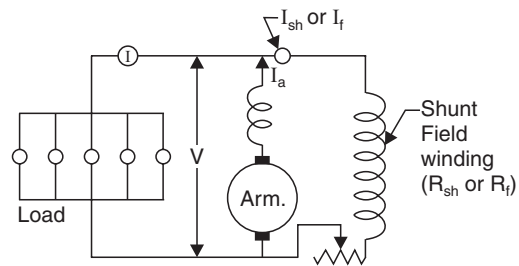
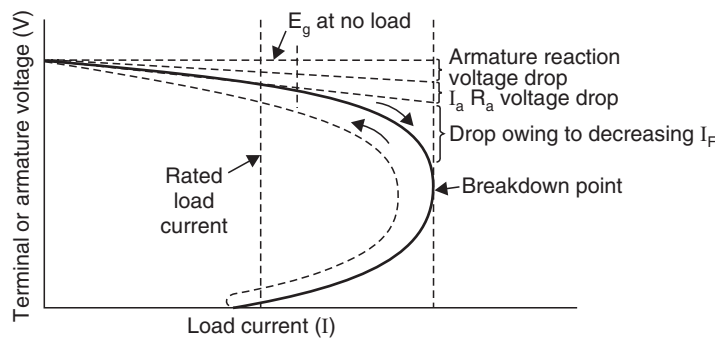

Fig. 34. Shunt generator under load.
Fig. 35. Shunt generator load characteristics.
- See Figs. 34 and 35. The effect of the preceding three factors is shown in Fig. 35, which shows external (load-voltage) characteristic of a shunt generator.
- As shown in the circuit of Fig. 34, the readings of the voltage across the armature (and load), V are plotted as a function of load current, I . The voltage, V , is the same as E_g at no load (neglecting the $I_a R_a$ and armature reaction drop produced by the field current). The effects of armature reaction, armature circuit voltage drop, and decrease in field current are all shown with progressive increase in load. Note that both the armature reaction and the $I_a R_a$ drops are shown as dashed straight lines, representing theoretically linear voltage directly proportional to the increase in load current. The drop owing to decreased field current is a curved line, since it depends on the degree of saturation existing in the field at the value of load.
- As shown in Fig. 35 further application of load causes the generator to reach a breakdown point beyond which further load causes it to ‘unbuild’ as it operates on the unsaturated portion of its magnetisation curve. This unbuilding process continues until the terminal voltage is zero, at which point the load current is of such magnitude that the internal armature circuit voltage drop equals the e.m.f. generated on the unsaturated or linear portion of its magnetisation curve.
- It may be noted that if the external load is decreased (an increase of external load resistances), the generator will tend to build-up gradually along the dashed line shown in Fig. 35. Note that for any value of load current, the terminal or armature voltage is less (as the voltage increases) compared to the solid lines which yield a higher voltage (as the voltage decreases). This difference is due to hysteresis.